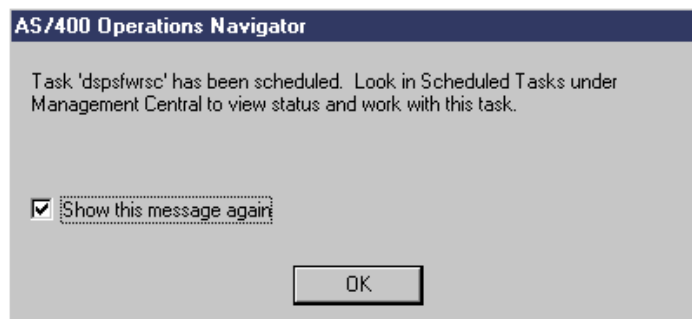

Figure 134. Schedule confirmation display
9. The message as shown in Figure 134 appears. Be aware that the schedule confirmation display is the same as the one for Management Central Scheduler. It says to look in **Scheduled Tasks** under **Management Central**. You may see this job in the list, but we recommend that you use the **Scheduled Jobs** under **Advanced Job Scheduler** instead. Click **OK**.